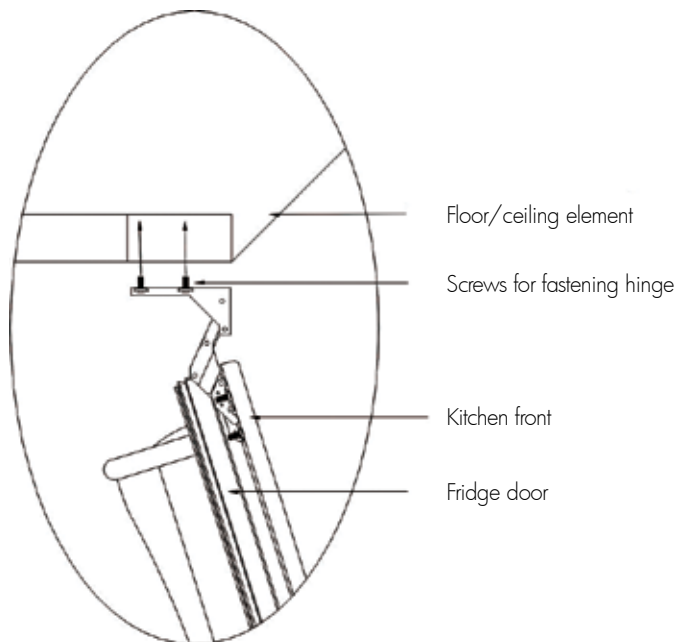

Fig 5
8.4. Fitting furniture fronts (see figures 5, 6 and 8)
3. Cabinet door. Remove hinge retaining screws in floor and ceiling on side selected for hinges using Allen key supplied. Open hinges fitted on fridge door. Hold the door in the open position while inserting hinge screws through holes in hinges. Finger tighten up to (not completely tightened) floor and ceiling - see fig. 5.